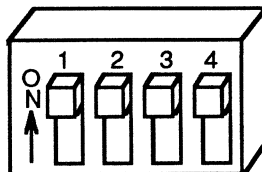

Figure 1-3. Switch Settings on the Logic Programmer Card
3. On the Logic Programmer card, locate the dipswitch and set all four switches to ON as shown in Figure 1-3.